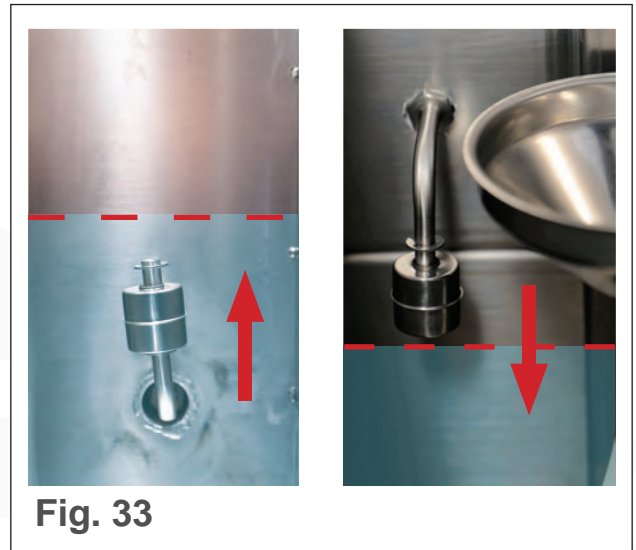

Fig. 33
- Run water through the **INLET VALVE** until the main tank is full and liquid has overflowed into the storage tank to a level between the low and high liquid-level sensors (see Fig. 33).
- Open the **STORAGE TANK VALVE** and drain the storage tank until the liquid level is between the low and high liquid-level sensors (see Fig. 33).